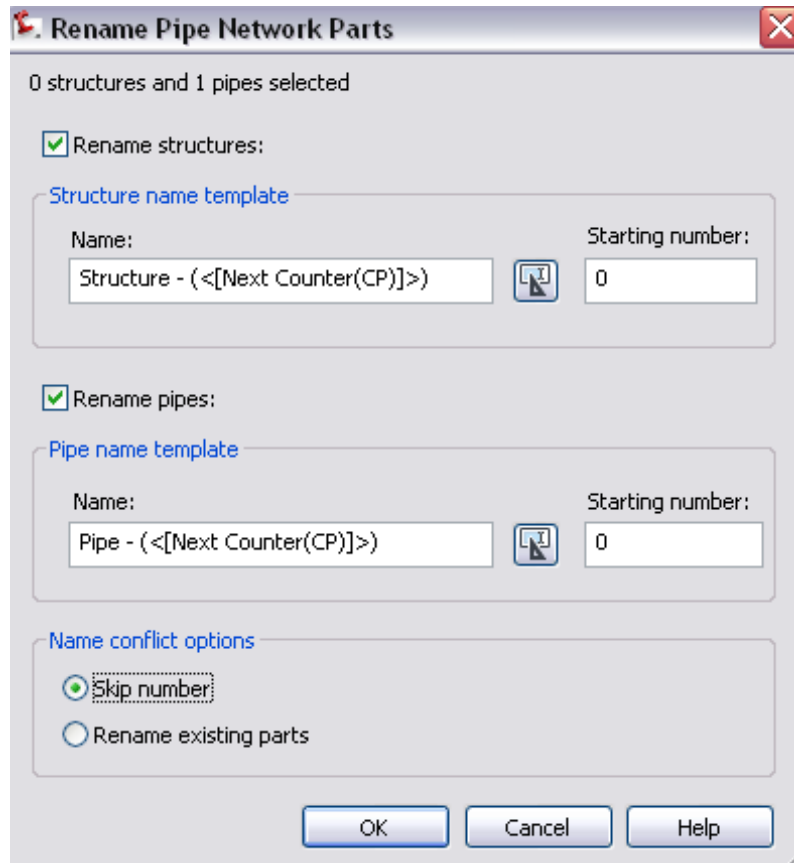

Figure 5: Dialog box for renaming pipes and structures
- 2 In the drawing, click to select the part(s) to rename and press Enter. The Rename Pipe Network Parts dialog box is displayed (figure 5).